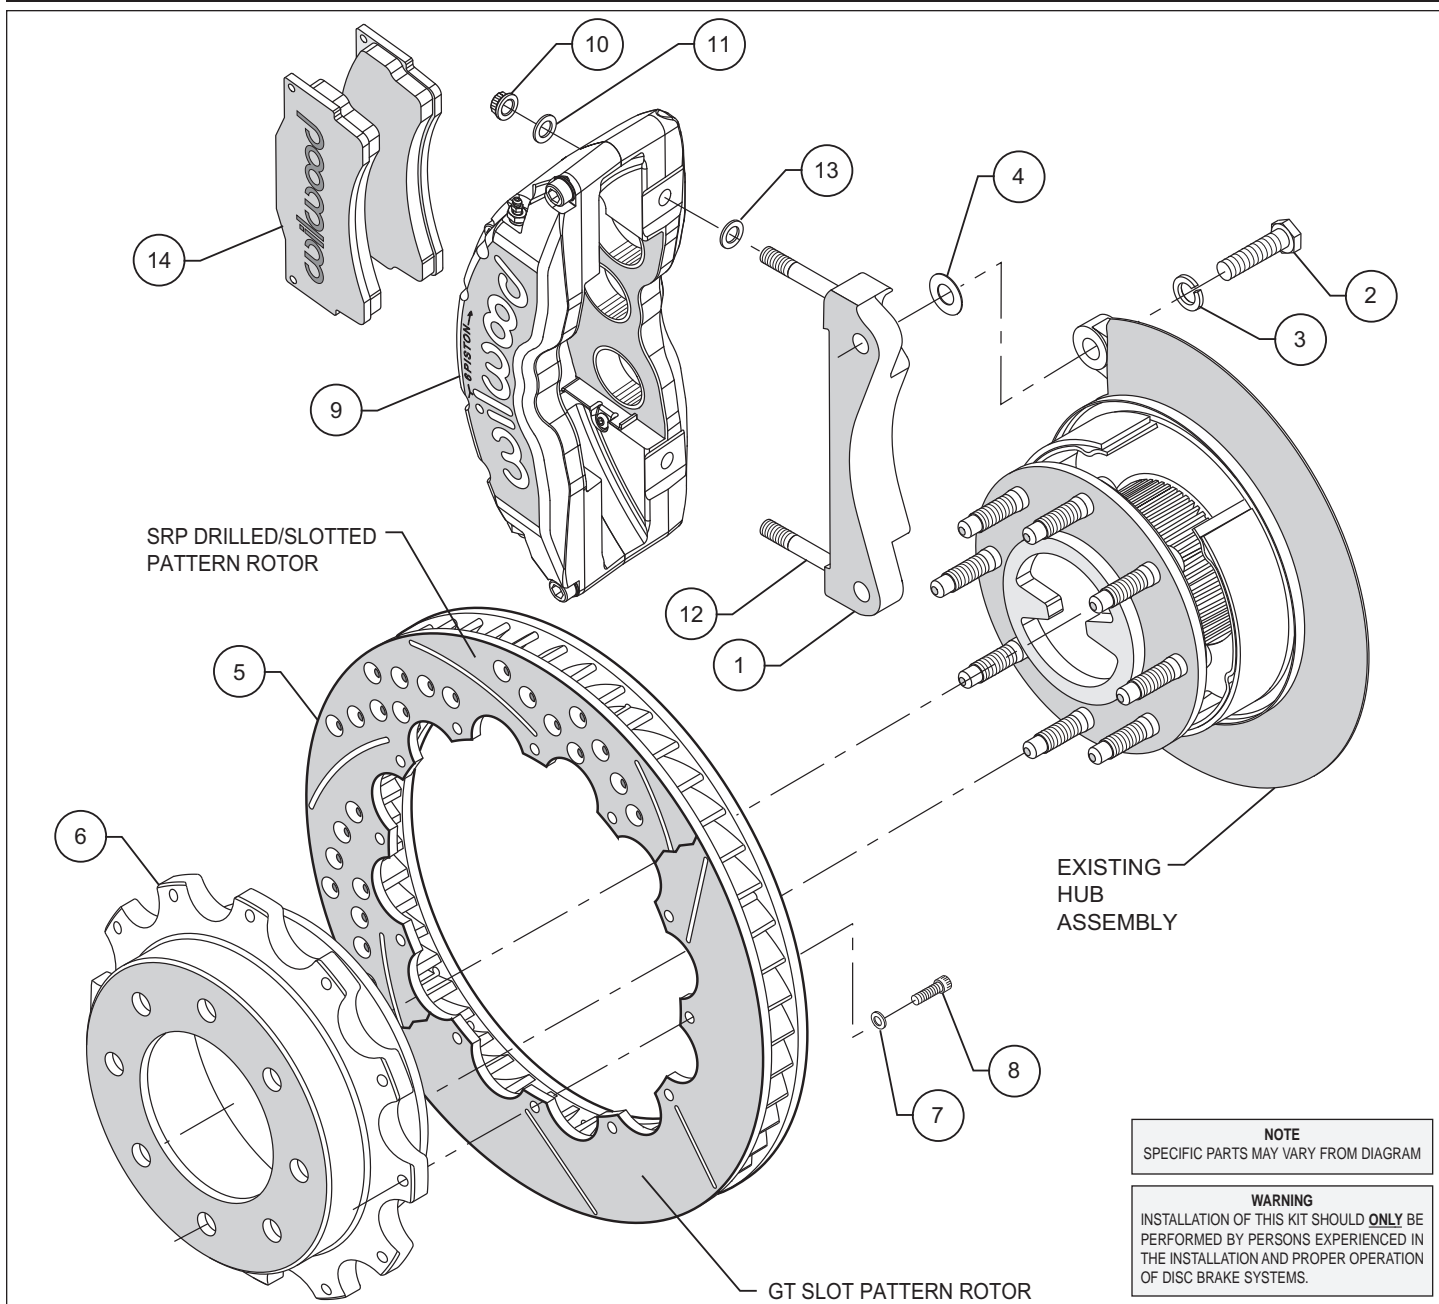
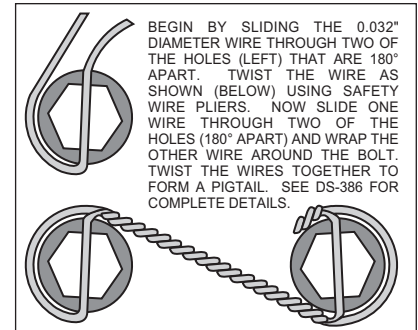

Figure 1. Typical Installation Configuration
Figure 3. Safety Wire Diagram
- The caliper mount bracket assembly (1) should be installed first with clean, dry threads on the mounting bolts (2). Install the bracket by sliding bolt (2) through lock washer (3) from the rear side of the hub through the OEM caliper mounting bracket ears, then through shim washer (4) and into the bracket (1). The bracket must tighten squarely against the outboard side of the caliper mount bosses on the upright. Inspect for interference from casting irregularities, machining ridges, burrs, etc. Use one thin shim (4) between the bracket and upright during initial trial fitting. Later, after the caliper, pad, and rotor alignment have been checked, and any necessary shims have been put in place, the mounting bolt threads (2) should be coated with red *Loctite*® 271 and torqued to 95 ft-lbs.
- Assemble the rotor (5) to the hat (6) with the bolts (8) and washers (7) as indicated in the configuration pictured in Figure 1. Be sure all bolts thread in smoothly and are snug. Then, torque all bolts in an alternating sequence to 198 **in-lbs**. The rotor mounting bolts (8) must be lockwired using standard 0.032 inch diameter stainless steel safety wire as shown in Figure 3. Please refer to Wilwood's data sheet DS-386 (available at [www.wilwood.org/ds386.pdf](http://www.wilwood.org/ds386.pdf)) for complete safety wire installation instructions.
- Lubricate caliper mounting studs and nuts with lightweight oil. Install one shim (13) over each stud (12) on the radial mount bracket (1). Slide the caliper (9) in place over the studs and rotor and install the washers (11) [up to 4 may be required on each side to keep the lock nut from bottoming out on the stud], and lock nut (10) to hold the caliper in place. The caliper bleed screws should be pointing up. Snug the lock nuts (10) and check that the rotor (5) is centered in the caliper (9). Add or subtract .029" shims (4) as necessary between the caliper mount bracket and the caliper mount bosses on the upright assembly to center the caliper.
- Remove the two caliper center bridge pad retainer bolts, nuts, and tubes from the caliper. Slide the brake pads (14) into place. They should install easily without interference. Check that the outside radius of the brake pad is aligned with the outside diameter radius of the rotor face. Add or subtract shims (13) between the caliper and mount bracket to gain the proper alignment. Reinstall the two center bridge pad retainer tubes, bolts, and lock nuts. The locknut should be snug without play in the bolt or tube. Be cautious not to over tighten.
- Once all clearances have been checked, remove the wheel, caliper and rotor from the axle flange. Secure the caliper mounting bracket (1) to the axle flange body with bolts (2) while coating the threads with red *Loctite*® 271. Torque the bolts to 95 ft-lbs. Reinstall the rotor and again use several lug nuts to hold it in place. Reinstall the caliper, torque the caliper nuts (10) to 30-35 ft-lbs.